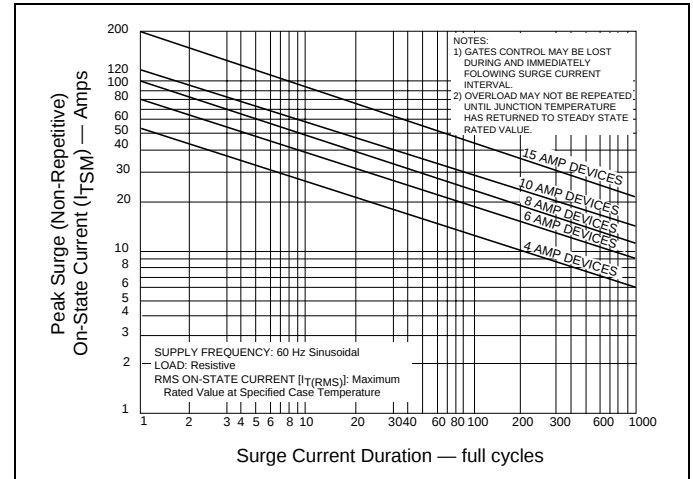

Figure 3.9 Peak Surge current vs Surge Current Duration
- (4) See Figure 3.9 for surge ratings with specific durations.